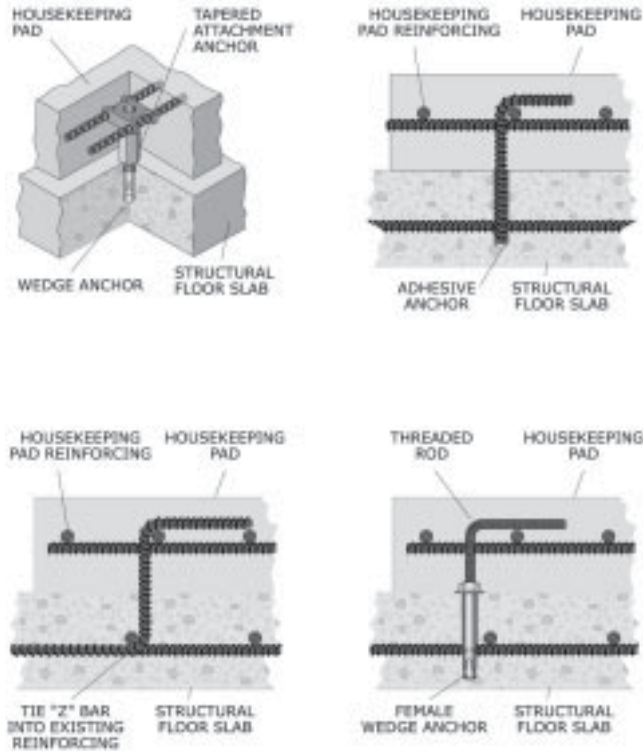

Figure 161: Doweling to the building floor.
Attachment details for dowels are shown in Figure 161 (below).
- Coordinate the location of embedded "Z" bar shown in Figure 161 with the concrete subcontractor.